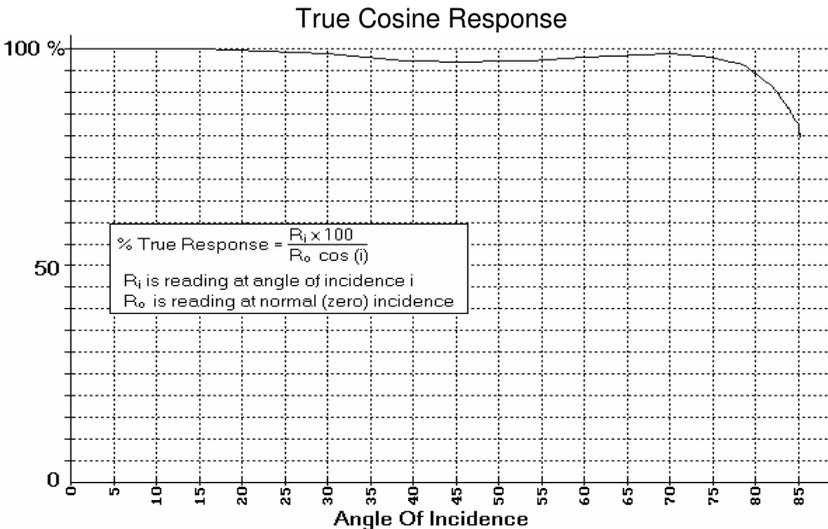

Figure 6
- Angular Response:** Accurately cosine corrected to Lambert's Cosine Law. Maximum error is less than $\pm 3.5\%$ from true response to 70° from normal incidence, reference Figure 6.
Angular Response: Accurately cosine corrected to Lambert's Cosine Law. Maximum error is less than $\pm 3.5\%$ from true response to 70° from normal incidence, reference Figure 6.